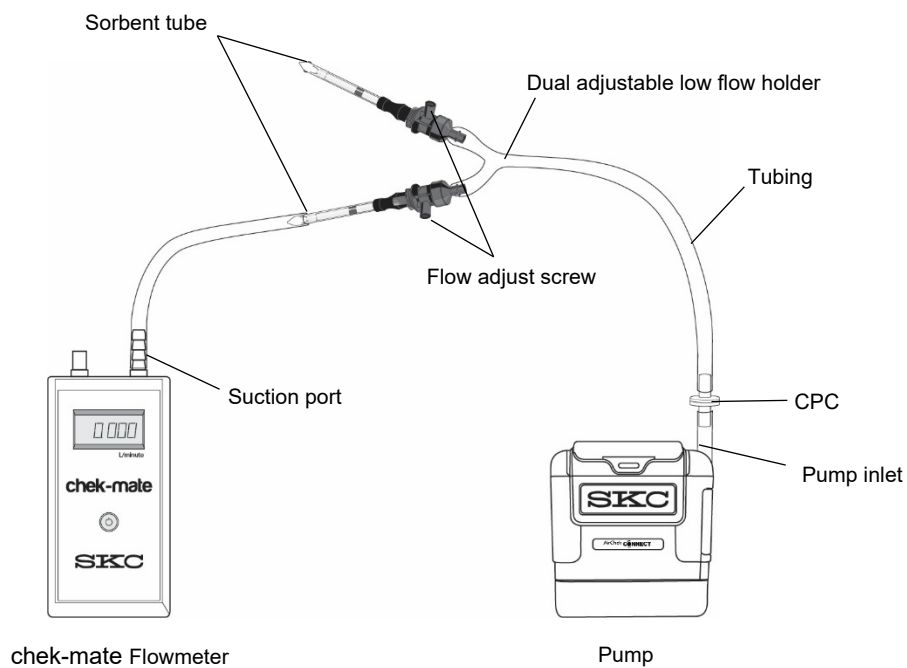

Figure 5. Flow Rate Verification Train (5 to 500 ml/min) for Multiple Tubes — Constant Flow Mode
- Multiple-tube sampling can be done using a Constant Pressure Controller (CPC) (Figure 5) and a Dual, Tri, or Quad Adjustable Low Flow Tube Holder accessory. See CPC and Adjustable Low Flow Tube Holder operating instructions for details on operation.
1. On the tube holder, insert an opened representative sorbent tube (arrow on tube pointing toward the pump) into the rubber sleeve on the port. Repeat for the desired number of tube samples. See *Figure 5*. **Note:** Place an unopened (inactive) tube in any unused port to “seal” it.